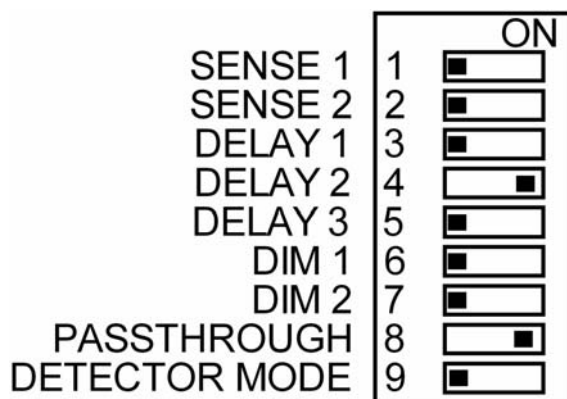

Figure 11. DIP Switch Settings - Occupancy Mode with Passthrough Enabled Testing
1. Set DIP Switch S1 to enable Occupancy mode and Pass Through. See Figure 11.